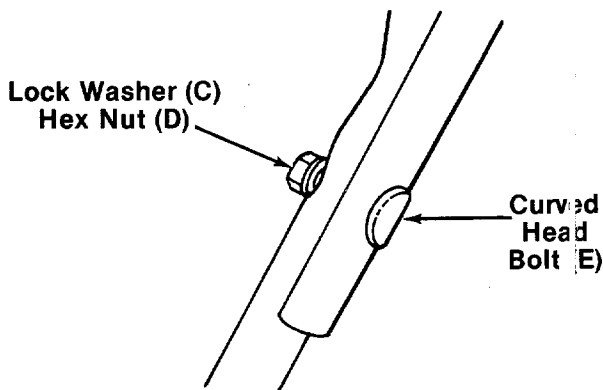

FIGURE 3.
4. Place the upper handle in position over the lower handle. The control housing must be on the right hand side of the handle. Secure the left hand side of upper handle using the curved head bolt (E), lock washer (C) and hex nut (D) as shown in figure 3.